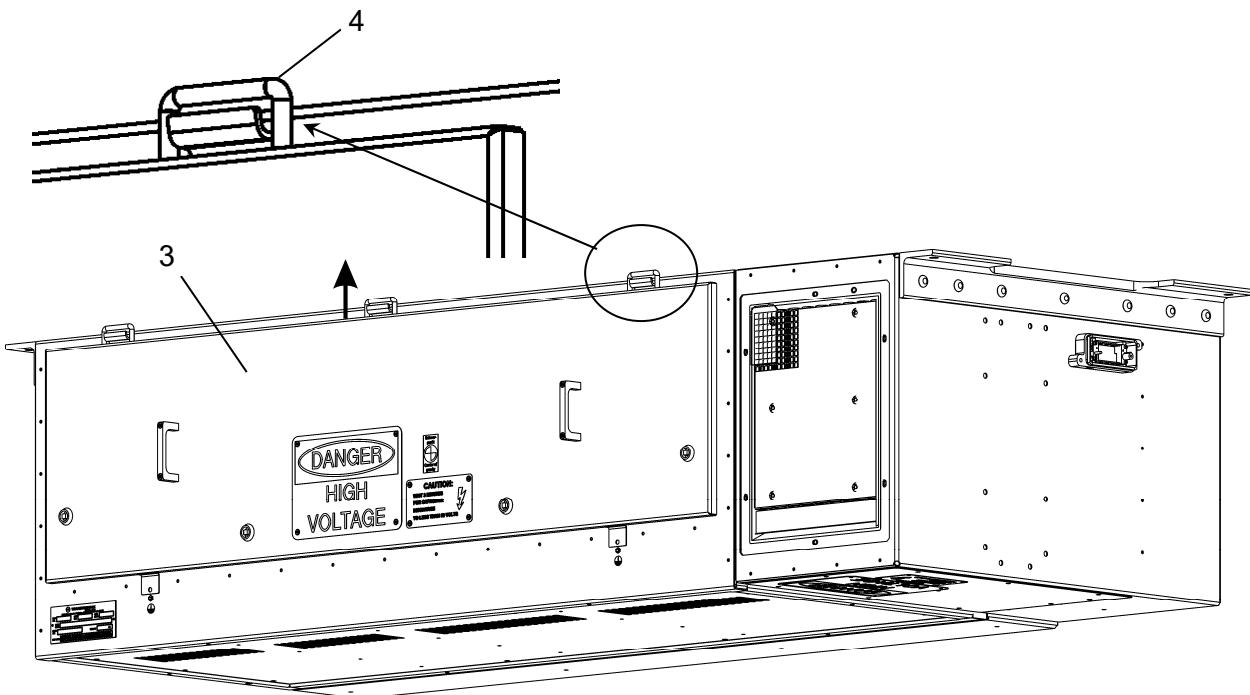

Figure 3-2: Remove Dry Section Cover (2)
4. Lift up dry section service cover (3) about 0.5 in so that the cover can be moved away from the enclosure – see detail drawing (4). See Figure 3-2.